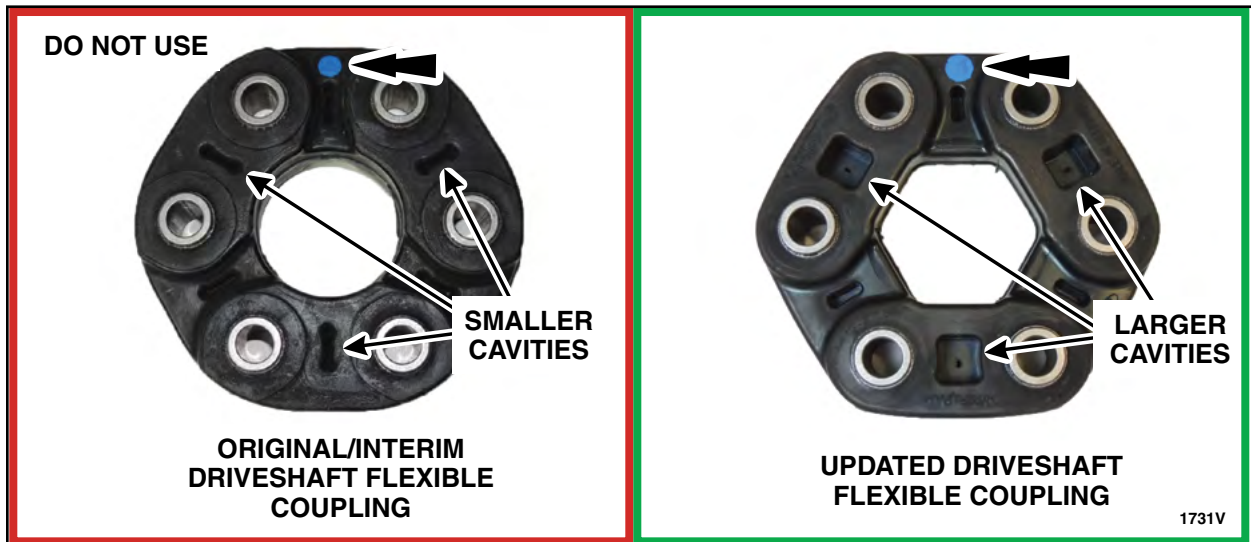

FIGURE 2
- The blue paint marking on the new driveshaft flexible coupling must be installed facing the transmission output flange or premature failure of the flexible coupling will occur. See Figure 2.